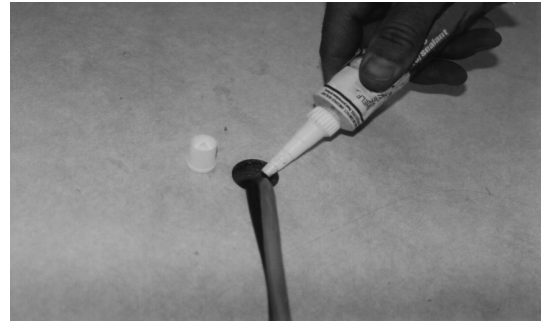

Figure 4-8
Step 3 After the cables are routed, pot the cables with silicone sealant, around the hole. (See Figure 4-8.) Extreme care must be taken in sealing the cable entry point into the vehicle in order to prevent leaks.